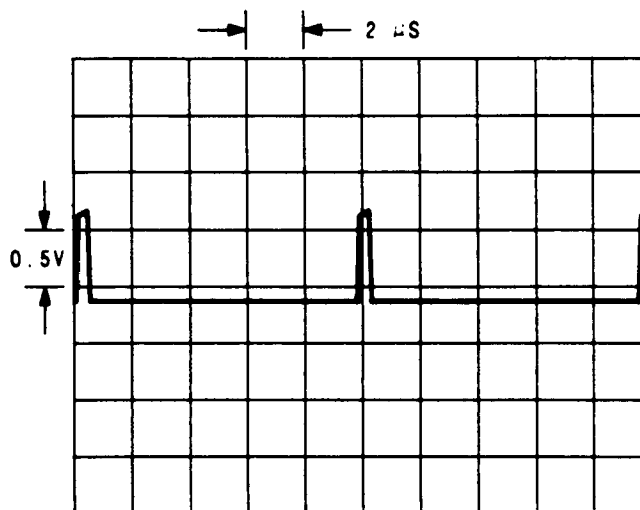

Figure 10. Oscilloscope Display of TP12, W3 in position W3B (service position), Signal Generator's frequency 960 MHz.
5. Verify that the waveform in Figure 10 is correct.